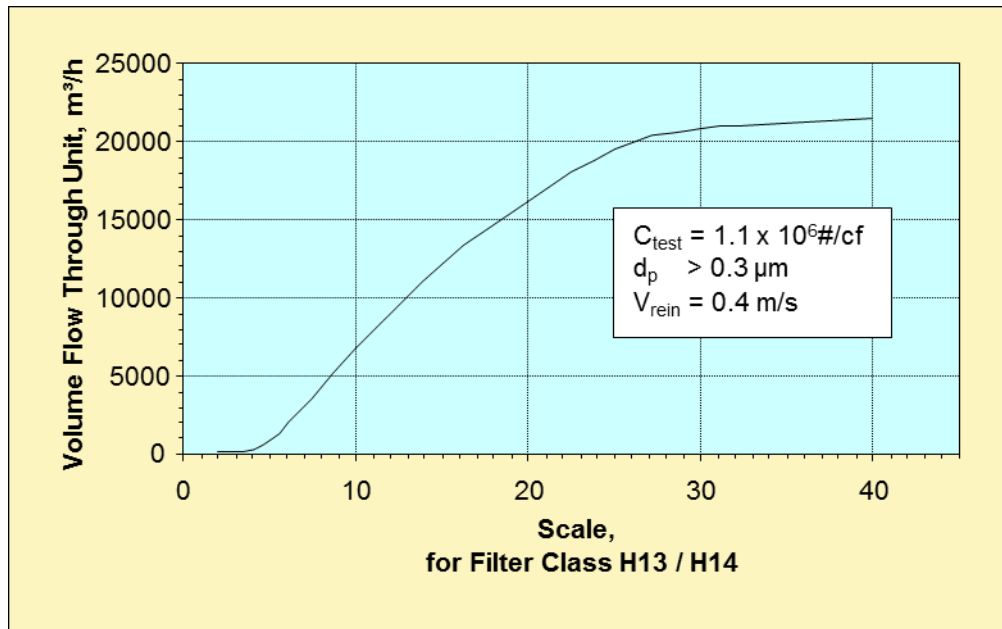

Figure 9: Range of Volume Flow of the Model 3079A Aerosol Generator
2. Start up the aerosol generator and set the requested aerosol flow rate by using the above diagram (Figure 9).